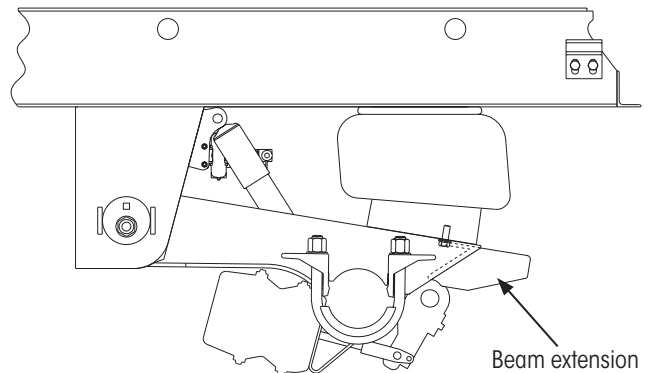

Figure 70: Installing rear suspension beam extension
4. Slide a beam extension into the end of each suspension beam (Figure 70) so the notch in the beam extension aligns with and stops against the bolt installed in the previous step.